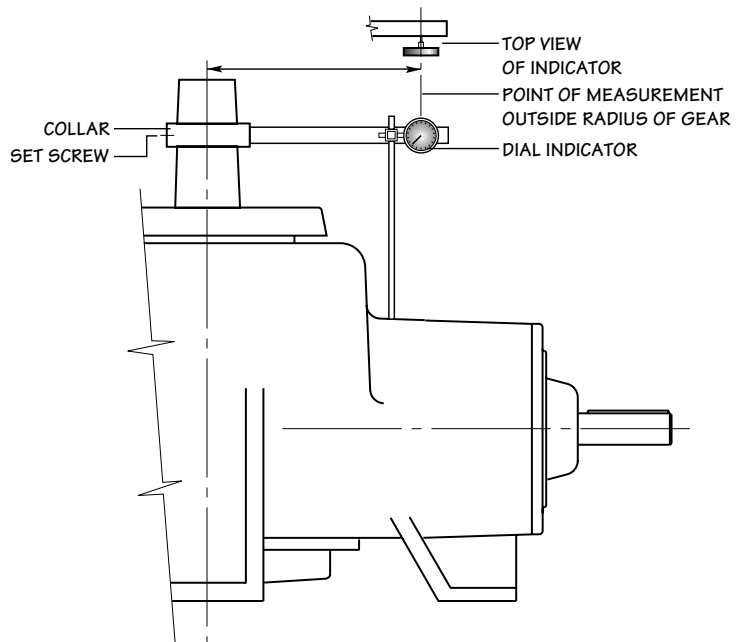

FIGURE 5 Gear Backlash Measurement
- With the "X" marked tooth on the pinion gear engaged between the two "X" marked teeth on the ring gear, check the backlash with a dial indicator as shown in **Figure 5**. Lock the pinion shaft against rotation. The amount of movement of the fan shaft, measured at a distance equal to the outside radius of the ring gear is the backlash. Obtain backlash setting by adjusting ring gear axially by removing or adding shims (420) at bottom bearing cap.